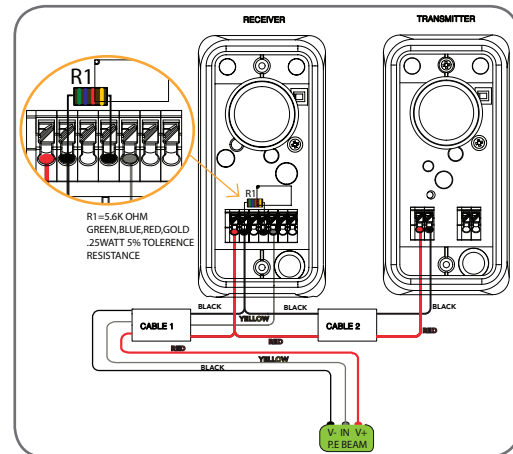

fig 55
- Connect the wires from the PE Beams wiring harness to terminal block (Fig. 55). The wiring diagram is for Model PE-2000TS (Order Code 61903).
WARNING: Install the PE Beams as per diagram in (Fig. 55). Tampering with PE Beams could result in serious personal injury and/or property damage and will void the warranty.